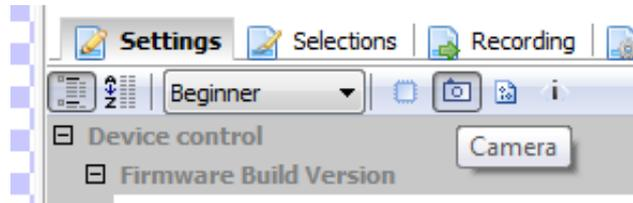

Figure 3.2 Access to the camera properties
- To change the camera properties, press the <Camera> icon (see Figure 3.2).
- When using the camera for the first time, use the Beginner mode (see Figure 3.2).